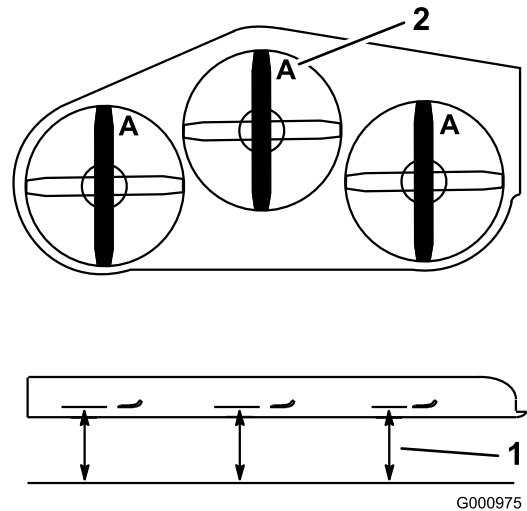

Figure 98
4. Measure from a level surface to the cutting edge, position A, of the blades (Figure 98).